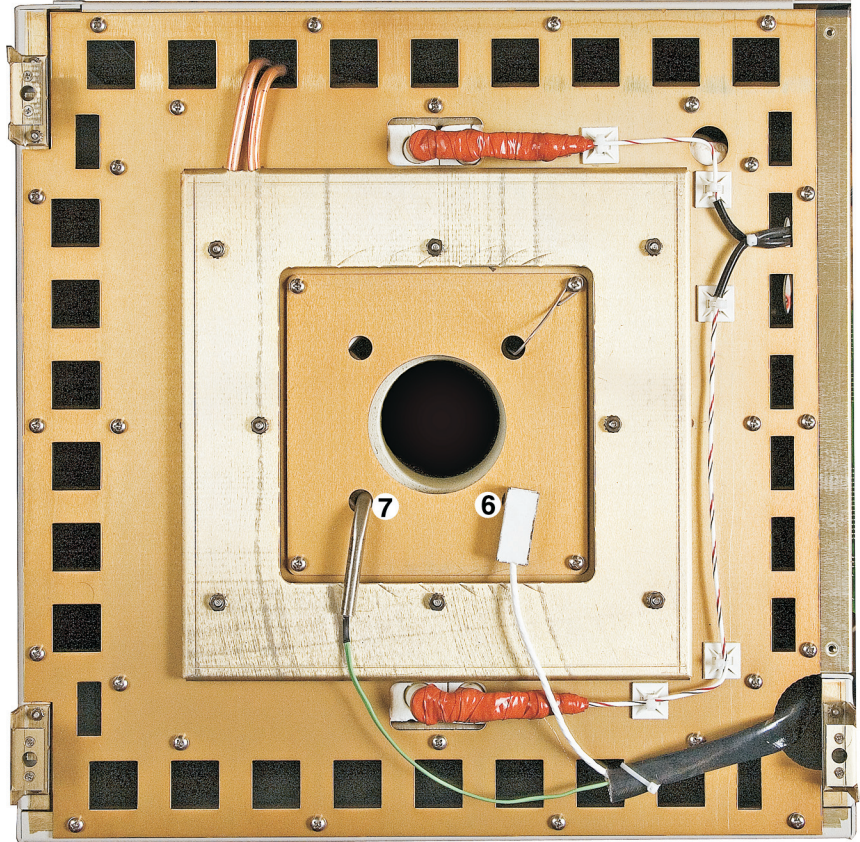
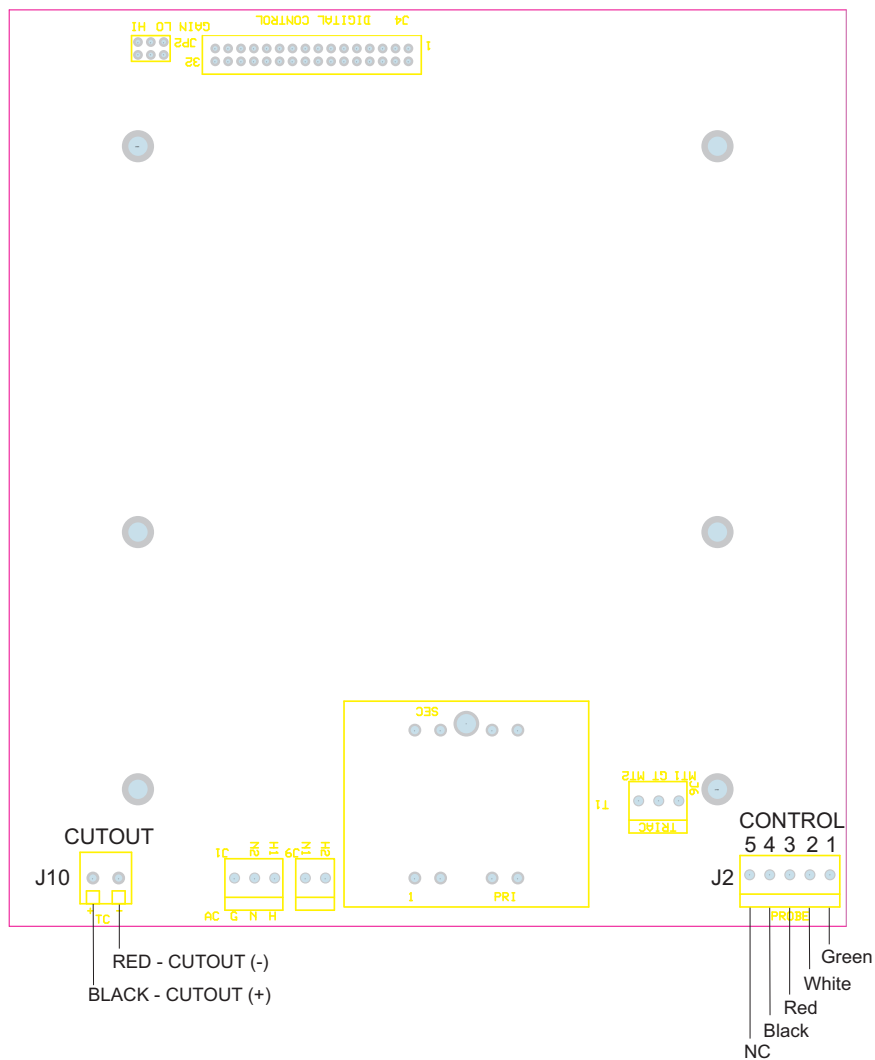

Figure 2 HTPRT control probe and cutout thermocouple wire routing and heat pipe ground wire placement..
Figure 3 Attachment of thermocouples
1. Remove the top cover (1) of the furnace. Remove the metal retaining plate (2) by detaching the four screws holding it in. Remove the top support block (3) and any packing material (used for shipping) from the central furnace core. Leave the bottom support block (4) in place at the bottom of the core.
2. Locate the heat pipe (5) and the heat pipe installation tool. Use cotton gloves to handle the heat pipe. Finger prints will cause corrosion of the Inconel at high temperatures. The installation tool has a handle with heavy gauge wire hooks which fit into the tabs on the top of the furnace. Remove any packing materials from the heat pipe. *(Any finger oils must be removed with reagent grade alcohol before installation.)* The heat pipe has a protrusion on the top between the installation tabs which served as a filling port. This port must be rotated appropriately to fit the matching notch on the top support block. Note the orientation of the notch on the top support block and be sure to rotate the heat pipe accordingly. The larger notches in the top support block are toward the rear of the furnace. There is a grounding wire attached to the top flange of the heat pipe. **BE CAREFUL** that it does not damage the ceramic heaters as the heat pipe is lowered into the furnace.
4. Once the heat pipe is in place, position the top support block (3) over the heat pipe. Be careful to position the notch onto the heat pipe, the flanges of the heat pipe (5) into the slits in the support block and the grounding wire through the right rear access notch (when facing the furnace) in the support block. If necessary, use a knife to cut pieces of the ceramic blanket material provided to center and firmly locate the top support block in place.
5. Re-attach the metal retaining plate (2) using the four screws. The ground wire from the heat pipe must be routed through the right rear access hole in the plate and attached to the closest screw using two star washers and a screw. Make sure that the ground wire is securely attached to the furnace chassis. Check the ground continuity to ensure that the ground wire is intact and the heat pipe (5) is grounded. Insure that the wire routing for the Control (6) and Cutout (7) probe is as shown in Figure 2.
6. Reinstall the control HTPRT (6) and the cutout thermocouple (7) as shown in Figure 2 on page 13. They must be inserted far enough to clear the top cover. They should also be centered in the air space between the element and the heat pipe. Small pieces of the fiber ceramic material can be used to fix their positions. The wires from the probes must be properly routed and connected to the controller as shown in Figure 2. Remove the cover over the electronics panel. Route the probe wires through the hole in the top of the furnace (at the front right of the furnace when facing the furnace) and down to the access hole into the electronics compartment (at the center left when facing the electronics panel). Connect the probe wires to the controller. The labels on the probes and the controller must be used to correctly complete the wiring. The thermocouple wires should be firmly attached using the screw-down terminals on the controller printed circuit board. The HPRT connection must be firmly seated on the controller. Make sure that the leads from the thermocouples are directed away from the central well of the furnace, and will not be pinched or interfere with other parts. See Figure 3